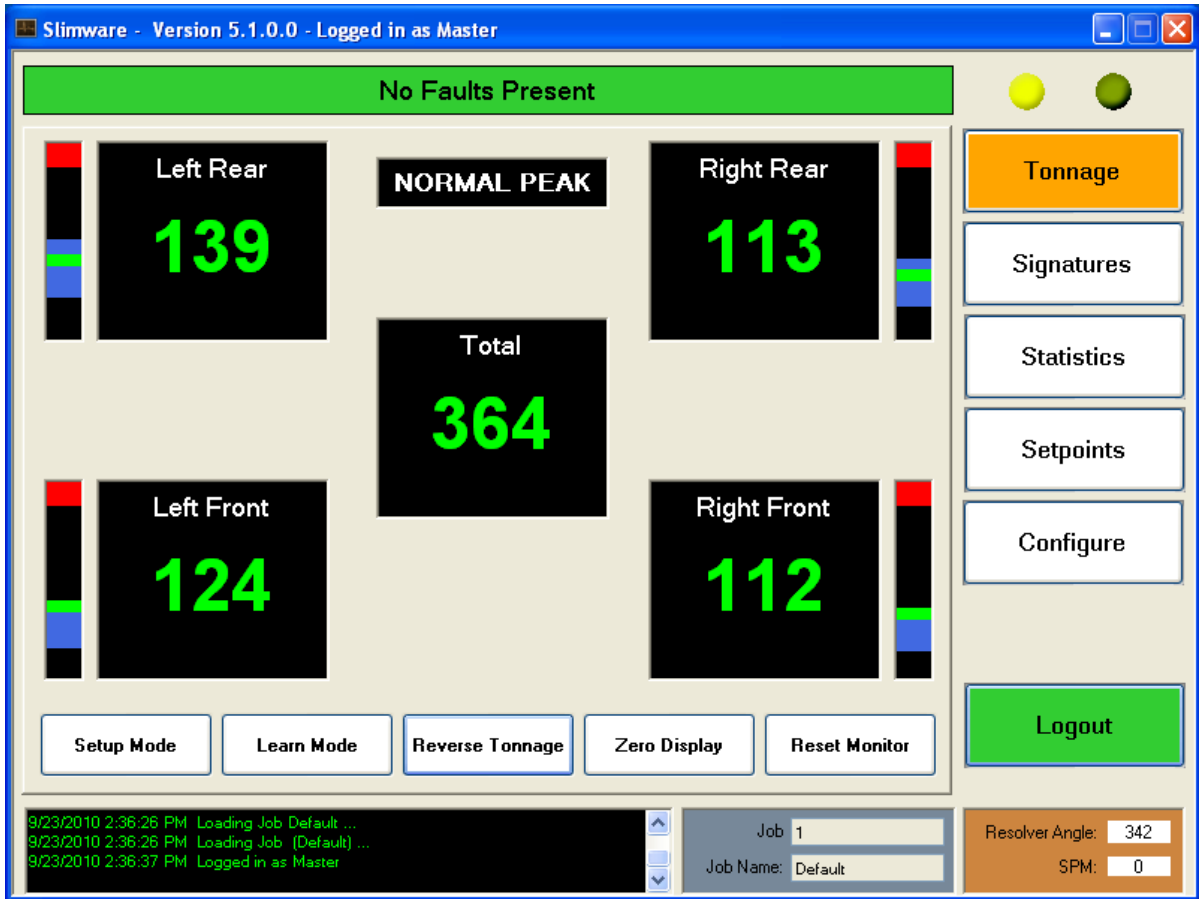

Figure 2-5: Tonnage Screen
Figure 2-5 shows a typical four (4) channel PW-LS monitor. Each corner displays the current tonnage and will turn red if an alarm is flagged for that channel.
- Normal Peak (Shown in Figure 2-5)